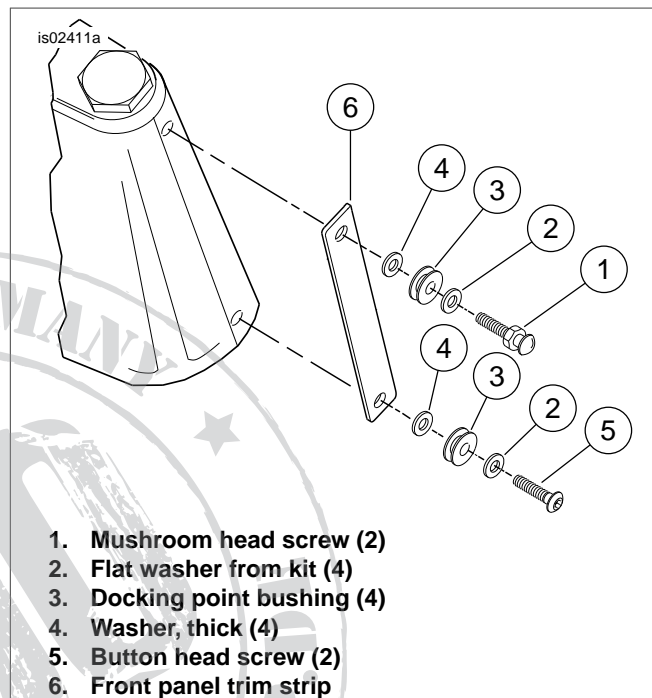

Figure 1. Front Panel Trim Strip and Windshield Dock Installation
2. See Figure 1. Remove and discard screws and washers securing trim strip (6) to the front and rear trim pieces.